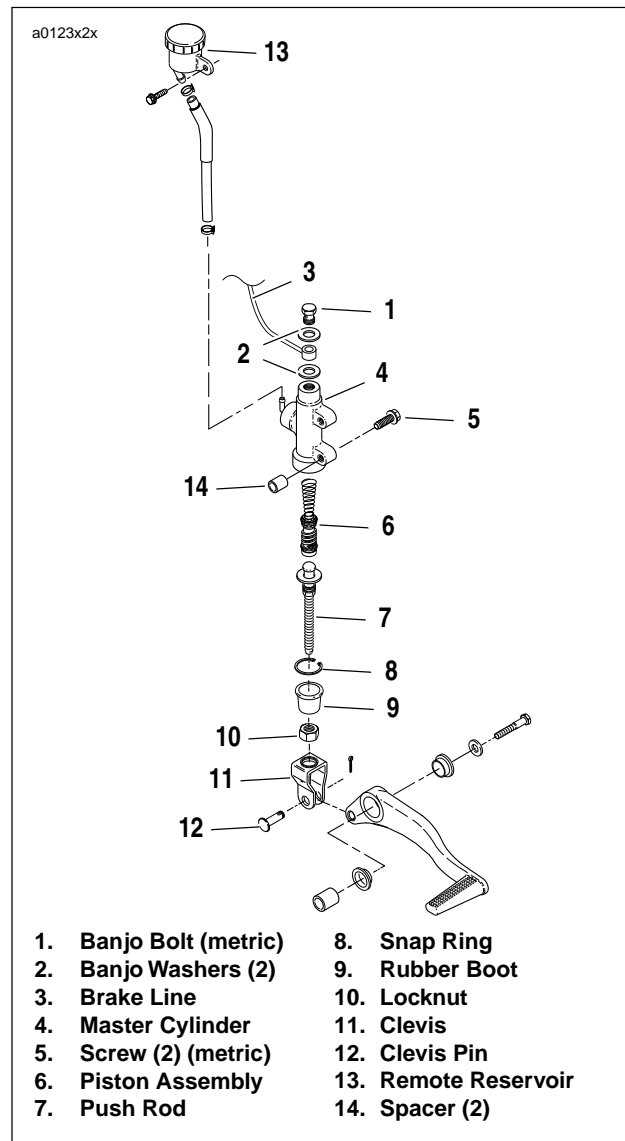
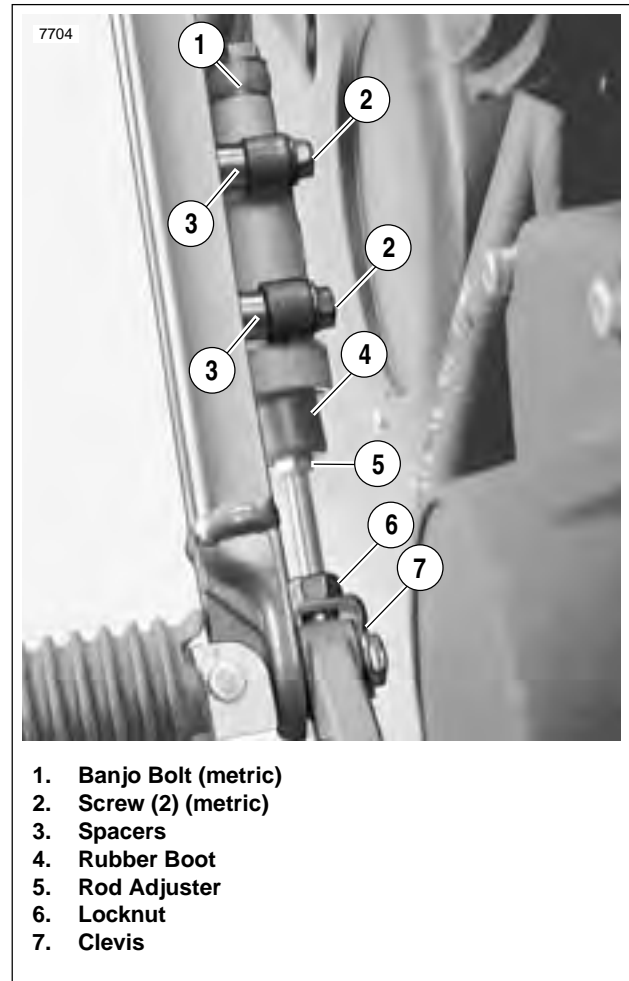

Figure 2-43. Rear Master Cylinder Assembly
Figure 2-44. Master Cylinder Mounting
2. See Figure 2-43. Remove banjo bolt (1) (metric) and two banjo washers (2) to detach brake line (3) from master cylinder (4). Discard banjo washers.
3. See Figure 2-43. Disconnect push rod from brake pedal clevis (11).
- a. Spin locknut (10) away from top surface of clevis.
- b. Turn rod adjuster (7) to free rod from clevis (11).
4. See Figure 2-44. Remove two screws (2) and spacers (3) to detach master cylinder from footrest support.
2. See Figure 2-44. Apply LOCTITE THREADLOCKER 243 (blue) to both screws. Attach master cylinder (3) to frame with spacers between master cylinder and footrest support. Tighten to 4-6 ft-lbs (5-8 Nm).
3. See Figure 2-43. Connect brake line (3) to master cylinder (4) with two **new** banjo washers (2) and banjo bolt (1) (metric). Tighten to 16-20 ft-lbs (22-27 Nm).
5. See Figure 2-44. Set brake pedal height.
- a. Loosen locknut (6).
- b. Turn rod adjuster (5) to obtain correct position.
- c. Tighten locknut (6).